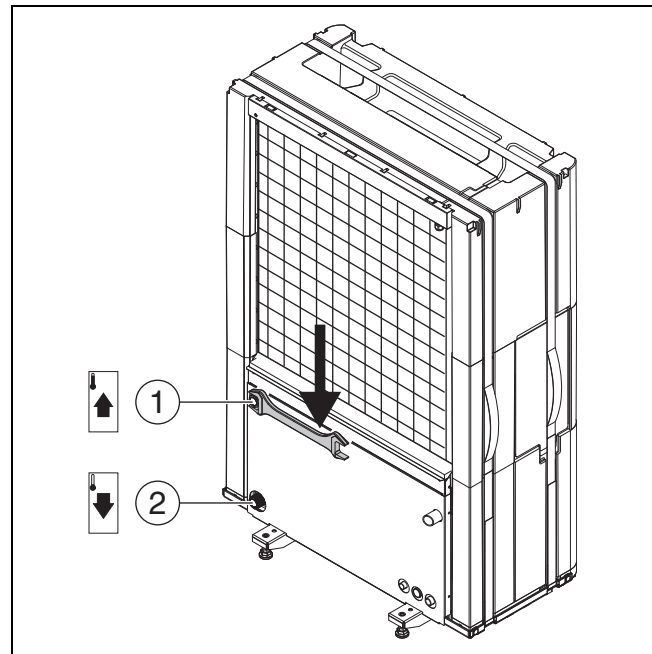

Fig. 15 Connections of heat carrying medium pipes, valid for all sizes
- ▶ Connect flow to the indoor unit at the heat transfer medium outlet of the heat pump (→ [1], Fig. 15).
- ▶ Connect return from the indoor unit at the heat transfer medium inlet of the heat pump (→ [2], Fig. 15).
- ▶ Tighten connections of the heat transfer medium pipes with a starting torque of 120 Nm. Direct the force downwards (→ Fig. 15) to avoid lateral loading of the condenser.